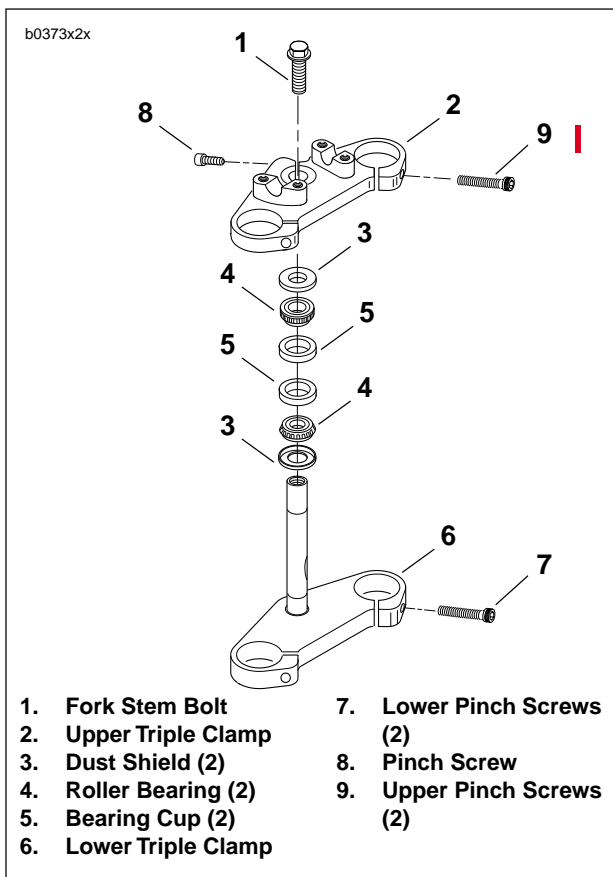

Figure 1-39. Steering Head Assembly
2. See Figure 1-39. Loosen both pinch screws (7) on lower triple clamp.
3. Loosen small pinch screw (8) on upper triple clamp.
4. Tighten or loosen fork stem bolt (1) to set proper tension.
6. Tighten both lower triple clamp pinch screws (7) to 18-20 ft-lbs (24-27 Nm).
7. Tighten small pinch screw (8) on upper triple clamp to 10-12 ft-lbs (14-16 Nm).